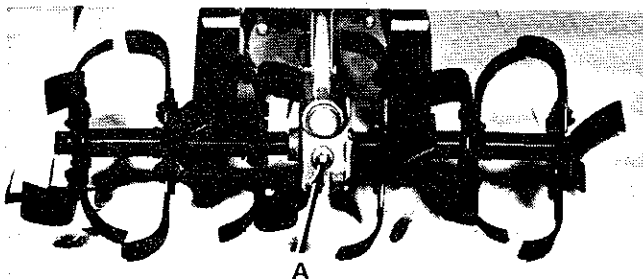

Figure 10. Worm Gear Oil Check Plug
a. Every five hours of operation, or oftener if any oil leaks are observed, the worm gear drive oil should be checked. Remove plug (A, Figure 10). The oil should be to the bottom threads of the plug hole when the Roticul is setting on a level surface. If oil is required, add special Mobil GG compound.